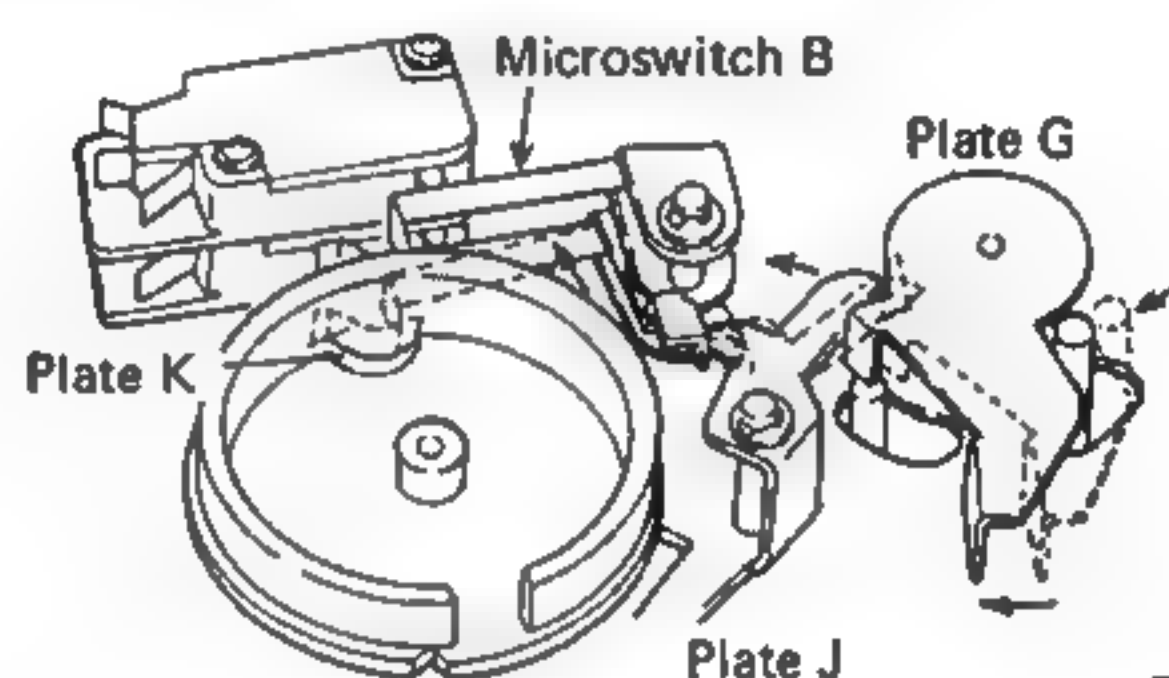

Fig. 11
5. When plate H is moved by the platter pin, plate J and plate K are moved via plate G, closing microswitch B and TM operates (Fig. 11).